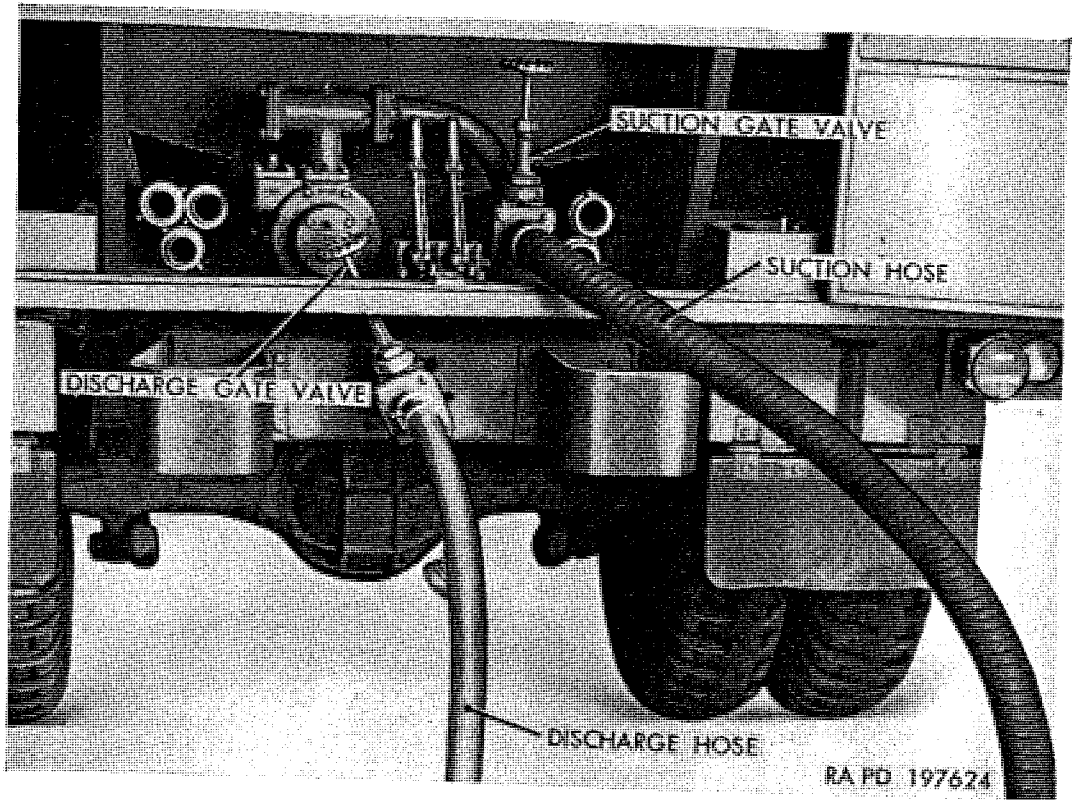

Figure 56. Use of discharge and suction hoses.
- (a) Attach 2-inch suction hose (rubber) (fig. 56) to suction stub.
- (c) Attach 2 x 1½ reducer (F, fig. 54) to discharge stub. Attach desired lengths of 1½-inch discharge hose (cotton) (fig. 56) to discharge stub reducer. Nozzle may be attached to hose if required.